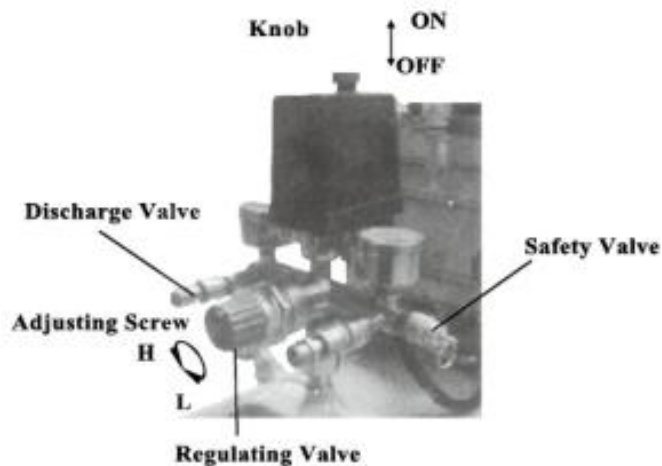

Fig.2
- (1)The place to set the compressor should be clean,dry and ventilated.
- (2)Keep the use voltage within $\pm 5\%$ of rated.
- (3)Keep the oil level in the red circle leveler.
- (4)Recommend compressor oil use SAE30 or L-DAB 100 over 10°C,and use SAE10 or L-DAB68 below 10°C.
- (5)Open the outlet valve,set the knob of pressure switch in position on (Fig.2),let the compressor run 10 minutes without load to ensure lubricating the moving parts before regular service.
- (1)Open the drain cock under the tank first and then close it.
- (2)The compressor is controlled by pressure switch when normal working.It can be stoped automatically as pressure increasing to the maximum and restart as pressure decreasing to the minimum.The rated pressure has been adjusted when produced.Don't change it carelessly.As soon as motor switched off the compressed air in the discharge pipe should be released through the outlet valve under the switch.This is the necessary condition for restart,or the motor will be damaged.The rated pressure can be adjusted by turning the adjusting bolt of the switch(Fig.2).
- (3) The outlet pressure of compressed air can be adjusted by regulating valve.(Fig.2). Pull up the knob of regulation valve and turn it clockwise to increase the pressure.
- (4) When the compressor needs to be stopped as it is running, only to set the knob of pressure switch in position off